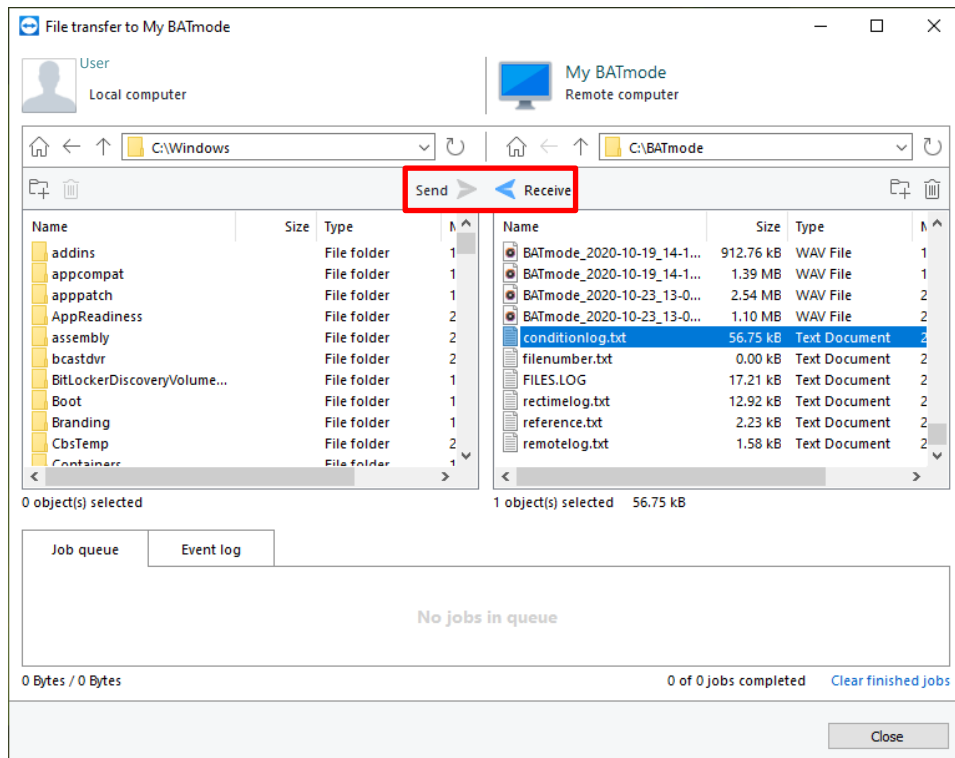

Figure 26: File transfer from your BATmode System
11. If you only want to transfer files (e.g. if the Internet connection is too slow for a graphical transfer), you can start the *file transfer* by activating the file transfer below the *Partner ID* in TeamViewer on your PC or laptop and clicking on *Connect*. You will then be asked for the password again (see Step 5) and the file transfer will start (see Figure 26: File transfer from your BATmode System).